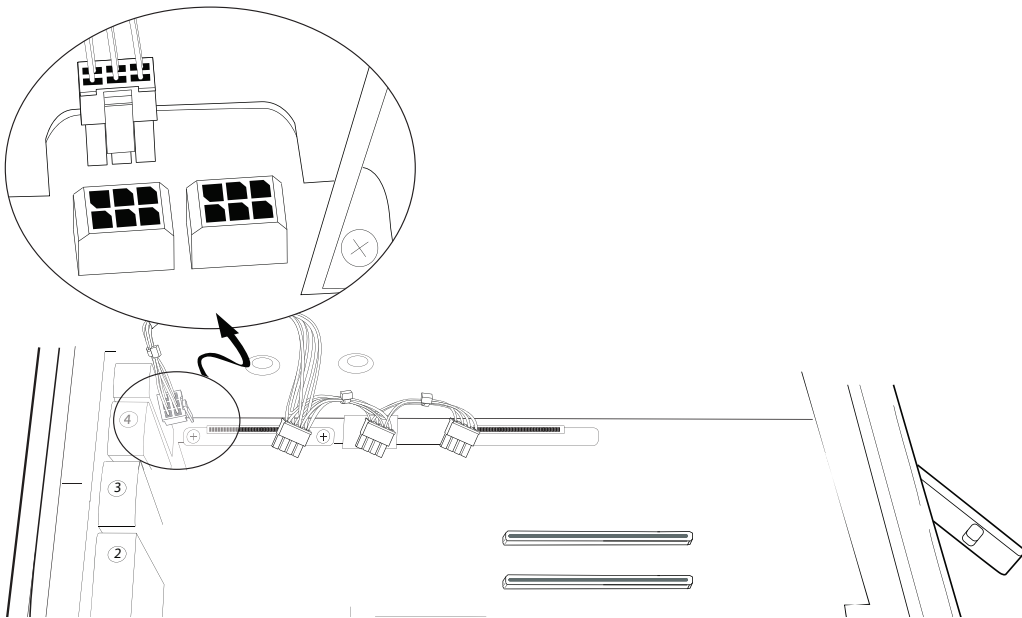

Figure 3. HDX card power cable connected to the motherboard
- 8** Connect the included custom power cable to the motherboard and move the cable away from the PCIe card slots. (See Figure 3 on page 12).